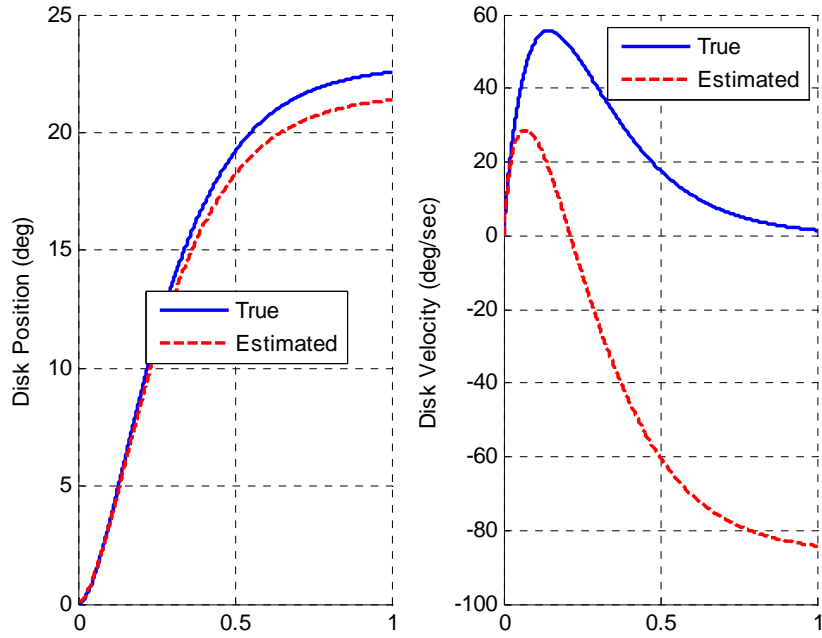
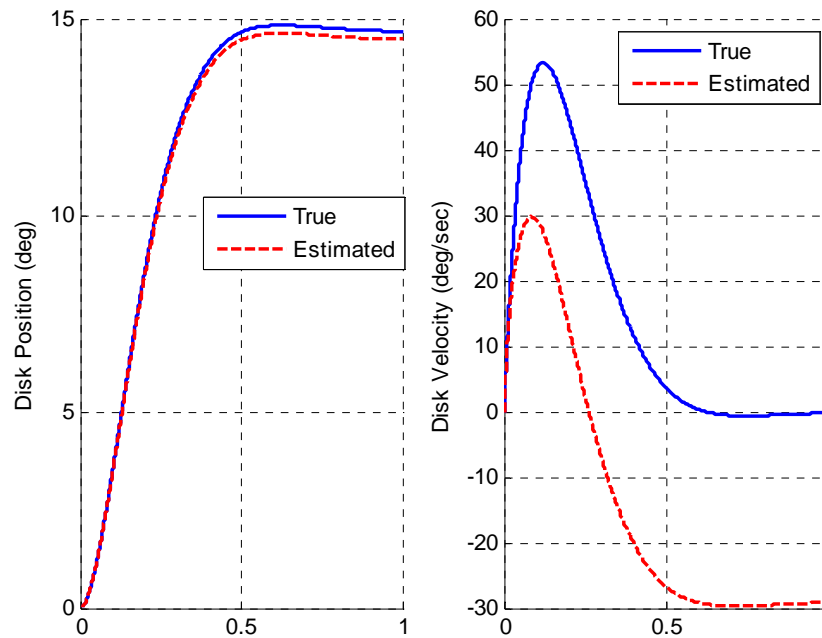

Figure 11. Results for the 1dof full order observer for a significant model error (problem 3e).
Figure 12. Results for the 1dof full order observer for a significant model error (problem 3e).
e) Change the observer poles so they are five times further from the imaginary axis than the state feedback poles (observer poles at $5*p$). You should get the results shown in Figure 11. If you place the poles 10 times further away you get the results presented in Figure 12. Note that as the observer poles get further away, the estimates get better. Be sure to set $AA=A$ before you go on.